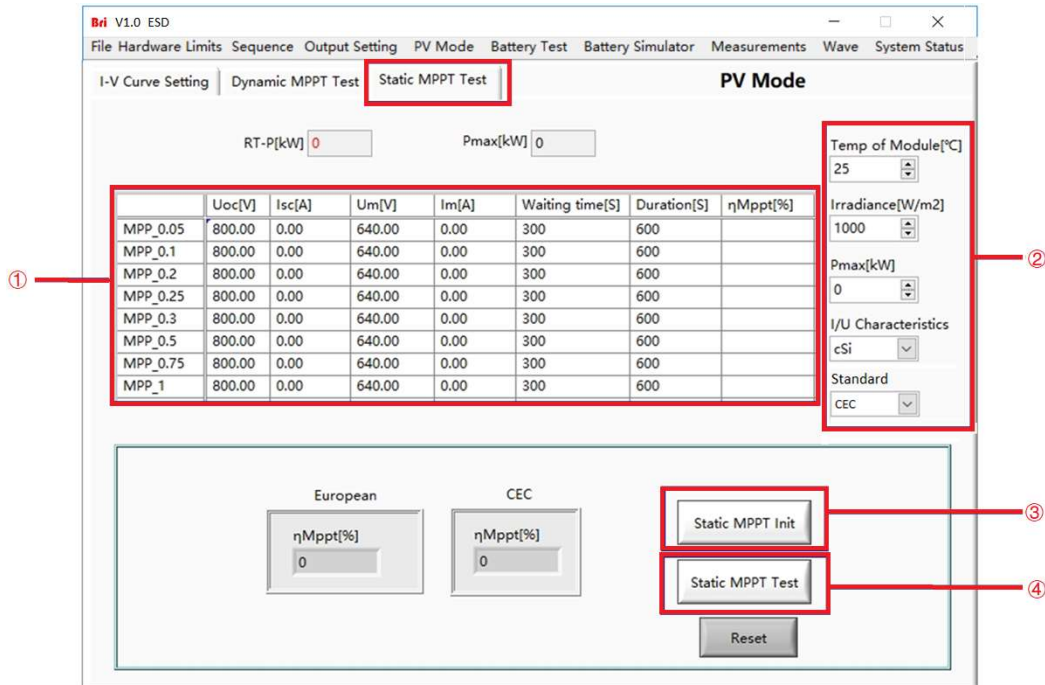

Figure 5-16 Static MPPT test
Set the temperature (Tamp), I/U characteristics (crystalline silicon/thin film mode), irradiance (Irradiance), Pmax and other parameters (Figure 5-16②), click the initialization button (Static MPPT Init) (Figure 5-16③), and finally click Static MPPT Test button (Static MPPT Test) (Figure 5-16④), the software will automatically calculate and display the real-time parameters during the test (Figure 5-16⑥). 5 minutes for each line and 10 minutes for the test. When the test is completed, the equipment will automatically shut down. When all tests are completed, the static maximum power point tracking efficiency  $\eta_{Mppt}$  will be calculated according to European standards and CEC standards. Click "Reset" to restore the data in the static efficiency test panel to the initial state.